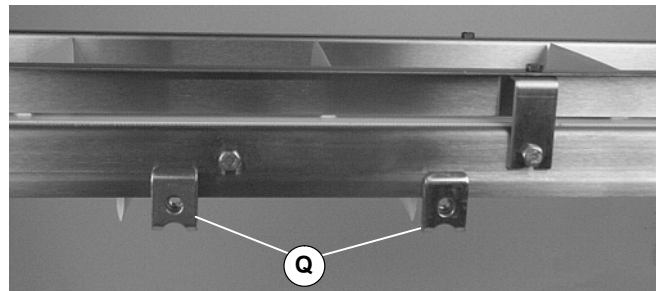

Figure 9
9. Attach accessory mounting clips (Q of Figure 9) to conveyor.